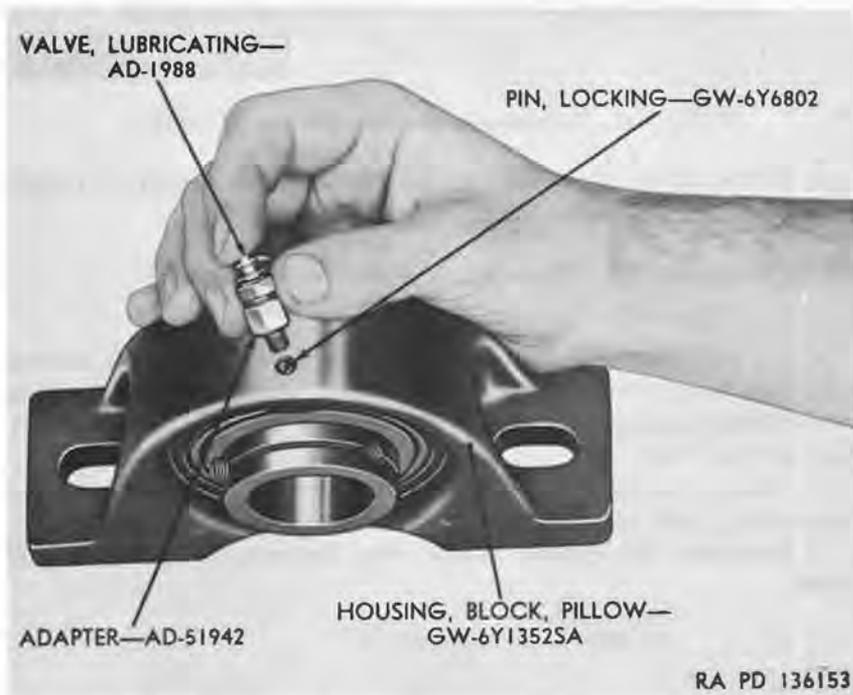

Figure 100. Removing lubricating valve, adapter, and locking pin.
a. *Remove Lubricating Valve and Locking Pin.* Loosen and remove lubricating valve and adapter from pillow block housing (fig. 100). Invert pillow block to remove locking pin.